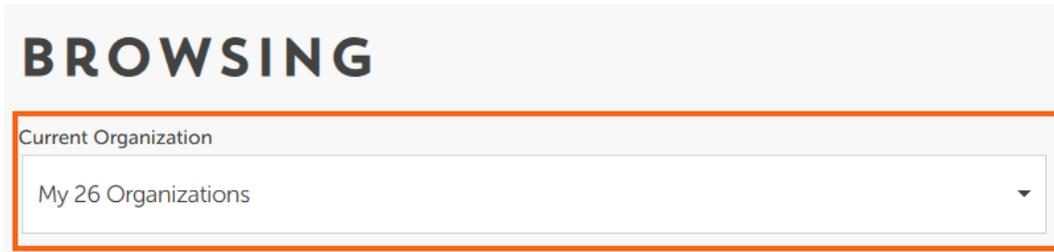

Figure 3: Current Organization Dropdown menu
- c. If it doesn't appear by default, click the organization name (Figure 2) and select the correct one from the Current Organizations dropdown menu—see **Figure 3**.